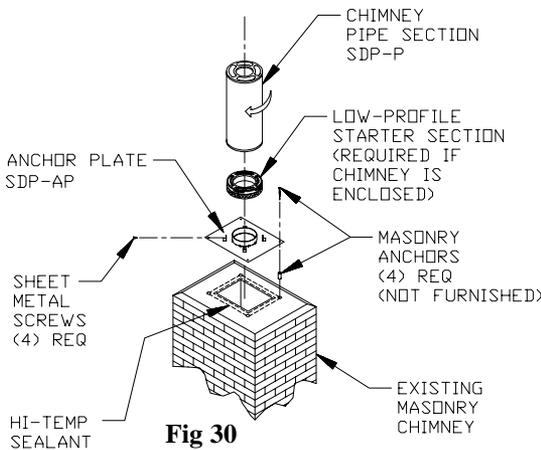

Fig 30
opening. Seal the Anchor Plate with a high-temperature mastic, and secure with (4) 1/4-inch masonry anchors. (Figure 30). Be sure it is level. The Anchor Plate is available in two styles. One contains the perforated Starter Section, which is used in the event the chimney is to be enclosed. The other is a flat plate, to be used in cases when the chimney is not enclosed.